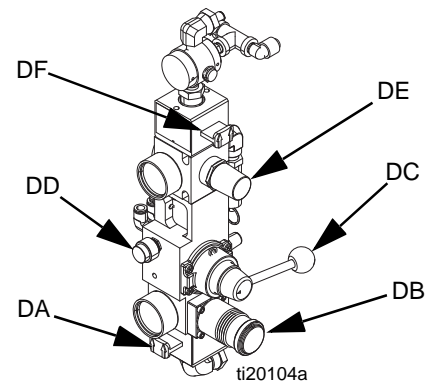

FIG. 32: Feed Pump Controls
- Slide main air slider valve (DA) and air motor slider valve (DF) to the OFF position. See FIG. 32.
- m. With the platen pressing into the fluid, slide the air motor slider valve (DF) to the ON position. See FIG. 32. Feed pump will start cycling. Continue pumping until pail is empty or desired amount of fluid has been added to the tank. Slide the air motor slider valve (DF) to the OFF position to stop the feed pump.
- n. To lift the platen out of the pail, press the blow-off valve (DD) then lift the director valve. The feed pump will push pressurized air into the